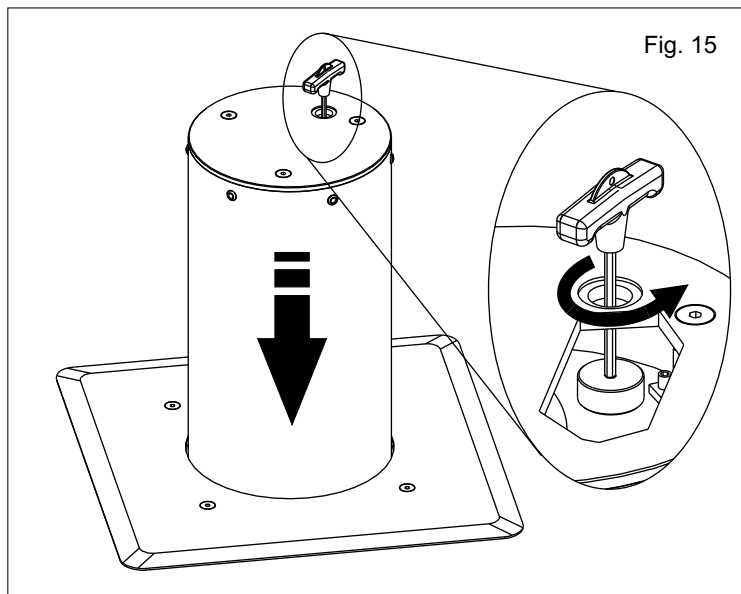

Fig. 15
**9.2.** Insert the same key in the release hole and unscrew (rotate it counterclockwise) until the bollard starts to descend slowly (Fig. 15). DO NOT OVER ROTATE.